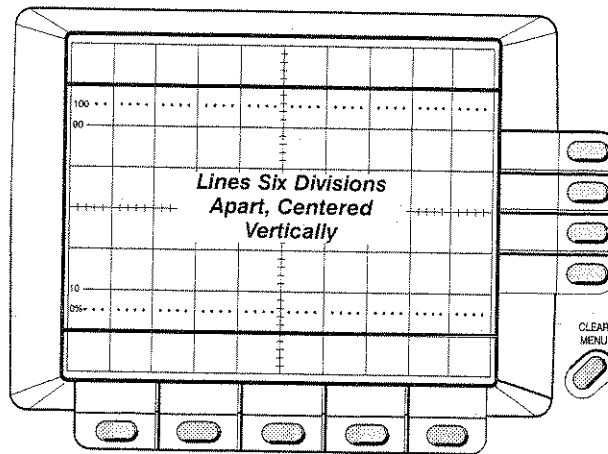

Figure 7-10: Adjusting Vertical Gain and Centering
14. Adjust R112 (vertical gain) and R154 (vertical centering) on the Display Driver board, setting the horizontal cursors 6 divisions apart, centered vertically (see Figure 7-10).